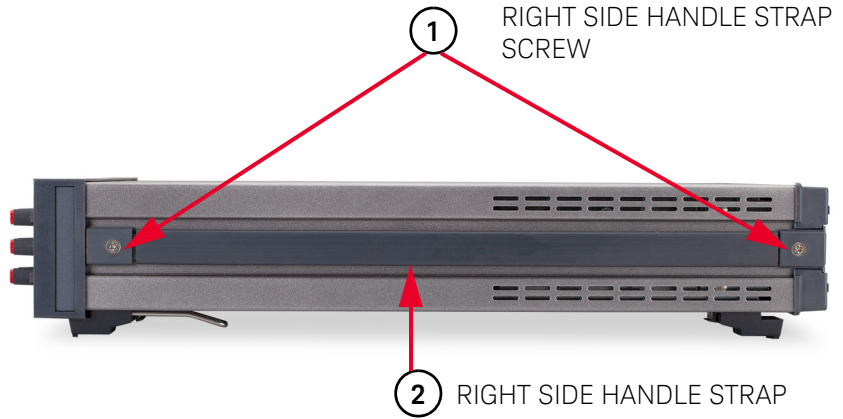

Figure 3-1 Right side handle removal/installation
The label numbers in Figure 3-1 to Figure 3-6 show the order of cover removal. Use reverse order for installation.
- 3** Refer to Figure 3-1. Turn the instrument so its right side (as seen from the front) faces you.
- 18 Refer to Figure 3-1. Turn the instrument so its right side faces you.